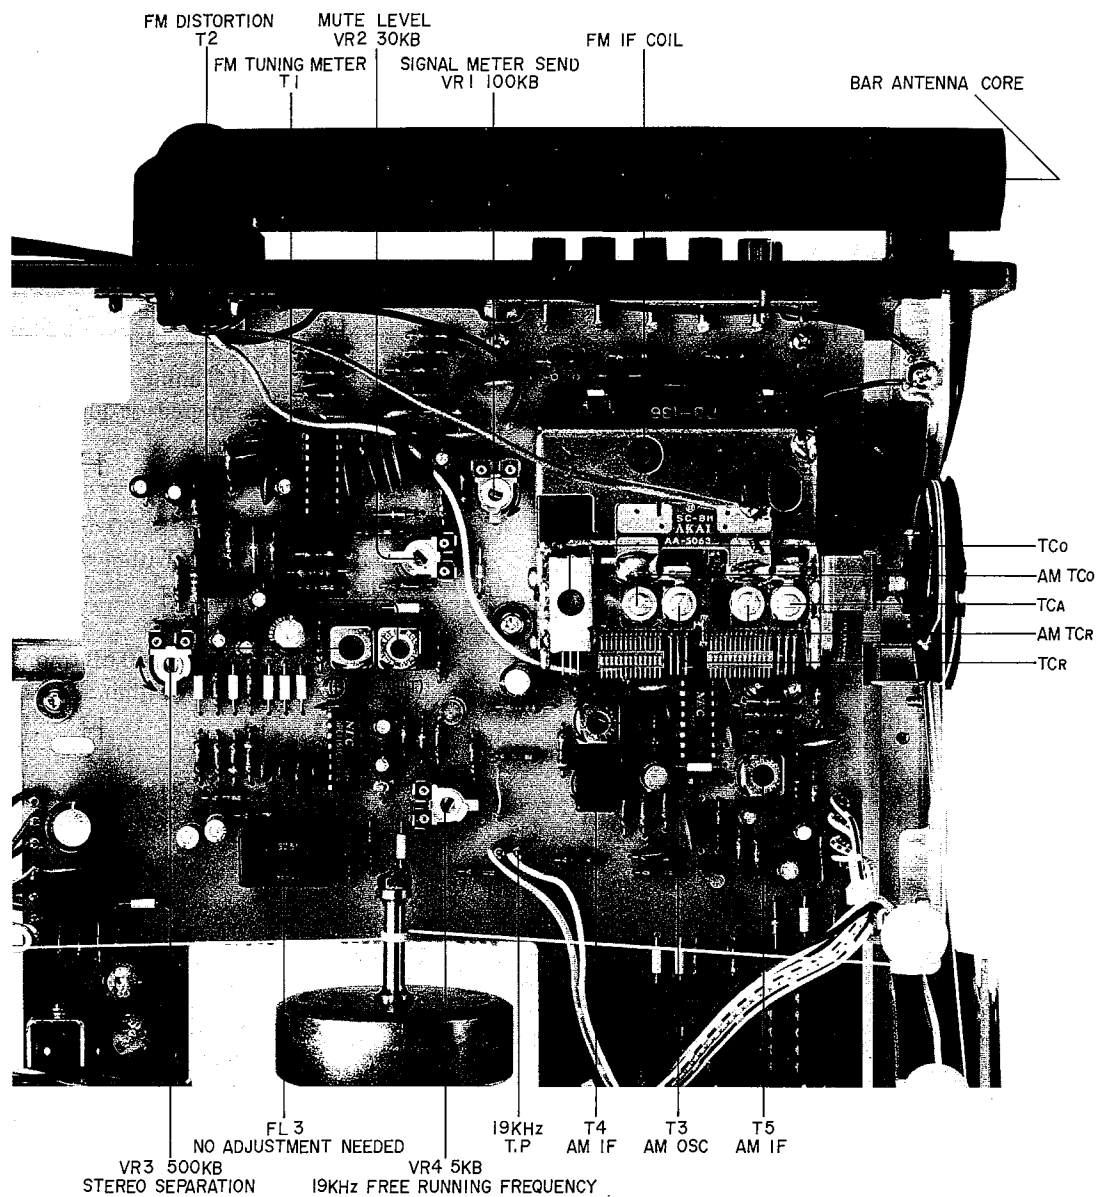

Fig. 19 Tuner P.C Board T3-2501A
**1. FM TUNER SECTION ADJUSTMENT (Refer to Figs. 19, 20)**
## 2. AM TUNER SECTION ADJUSTMENT (Refer to Fig. 19)